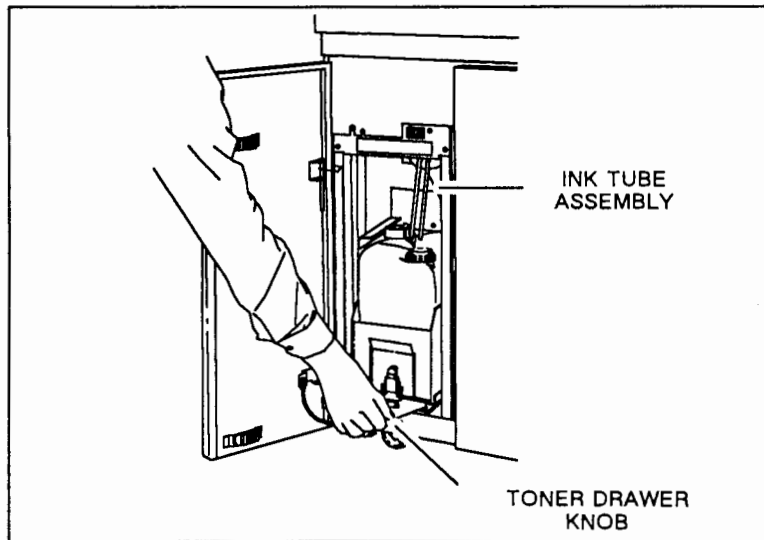

Figure 2-31. Toner Bottle Compartment
- c. Unscrew the toner bottle cap securing the ink tube assembly and raise the assembly. See Figure 2-31.
- e. Unscrew the toner drawer knob on the toner drawer. See Figure 2-31.